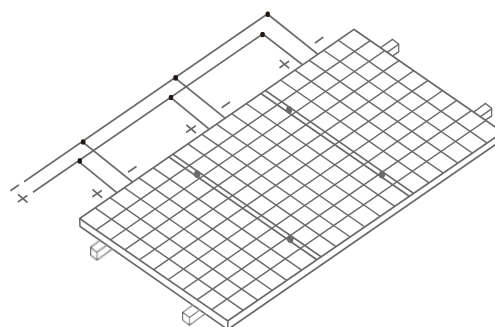

Figure 21 Connection in parallel
- When connected in parallel, the current output is equal to the sum of each string's current (as shown in Figure 21). Fuse is necessary for each Module string. Take reference to the local regulation. Recommended maximum parallel Module configurations: Fuse rating/ (1.25\* short-circuit current). Please refer to the country's or local regulations for details.